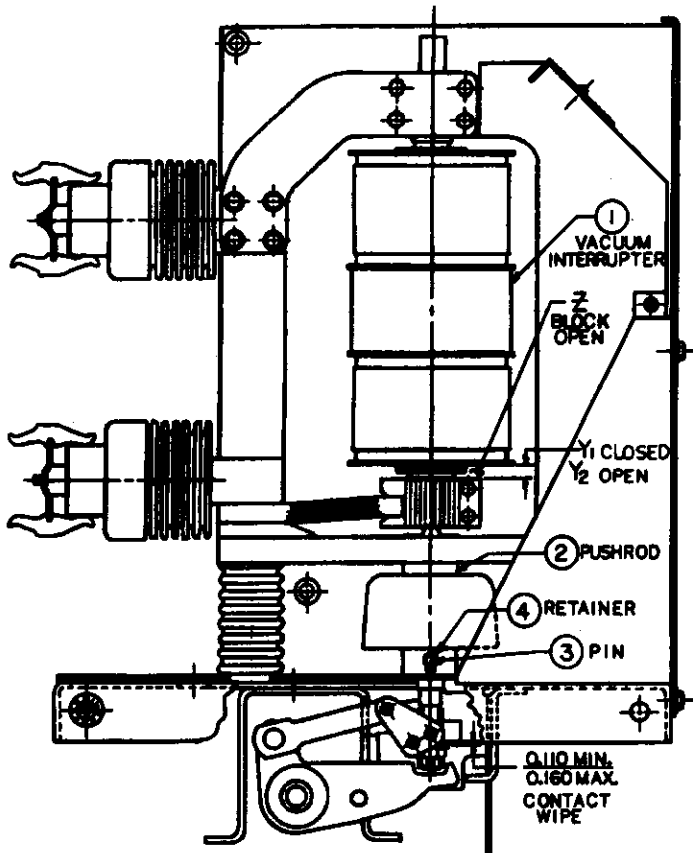

Fig. 5 — Contact Pressure
3. Contact wipe (contact pressure) (See Fig. 5). The contact air gap and contact wipe is set at the factory by setting the vertical position of the interrupter (1) and the vertical position of the pushrod (2). These parts should not be repositioned in the field unless a pushrod change is required to correct contact sequence as described elsewhere. Contact wipe is set at the factory at .11 minimum. Contact erosion and wear in mechanical parts will cause a reduction in contact wipe over the life of the breaker and a check should be made to insure that the wipe is not less than .031". The measurement is made as follows for the three poles:
4. Contact Air Gap (See Fig. 5). The contact air gap is set at the factory at the nominal dimension of .35. This value will normally increase as the contacts erode. A check of the contact air gap checks that the breaker does open
5. Contact sequence (See Fig. 5). All three poles should touch within 2 millisecond at normal closing speeds. An oscilloscope, oscillograph or other timing method may be used to establish the 2 millisecond timing.